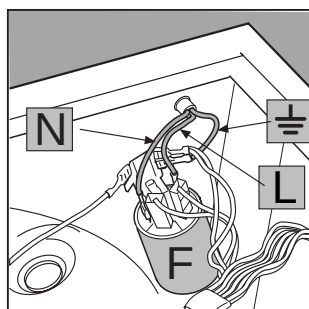

Fig. 4
3. Disconnect the wires from the radio interference suppressor **F** [fig. 4] noting as to their position (**Blue=N** wire; **Brown=L** wire) leaving the earth wire until last $\equiv$.